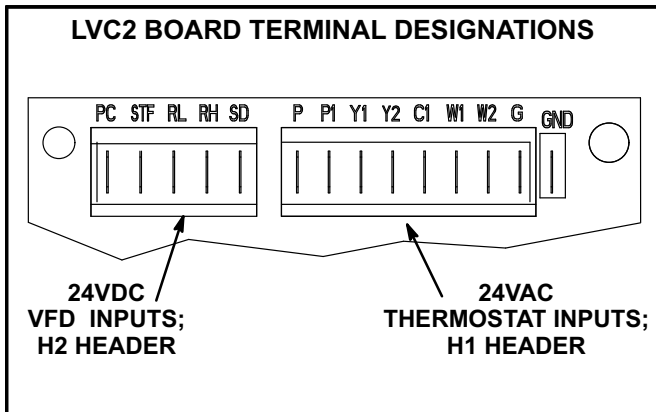

FIGURE 17
- 3- Check for 24VAC signal at the thermostat blower input (G to GND terminal). See figure 17.